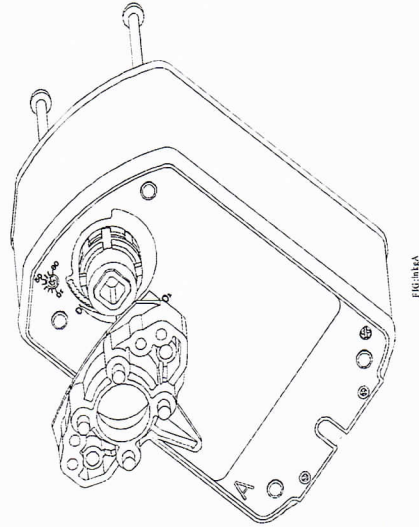

Figure 13: Installing the Linkage
5. Install linkage base on Side A using the two #10-14 x 2.75 in. long screws (Figure 13). The recommended torque is 20 to 24 lb·in. (2.3 to 2.7 N·m).